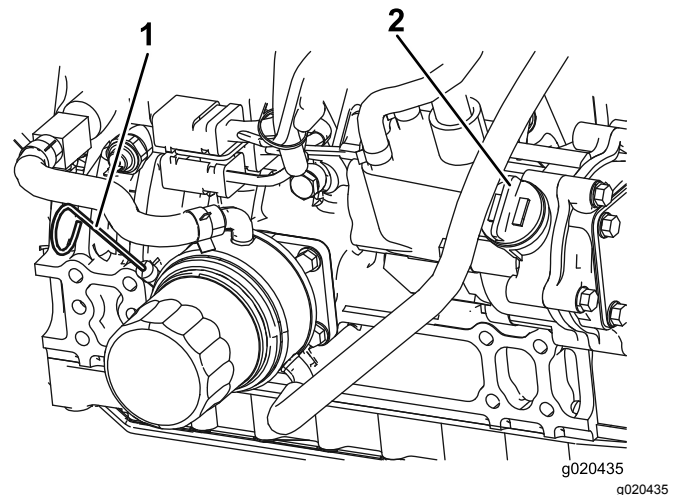

Figure 53
Note: The oil level should be in the safe range (Figure 53).
4. If the oil is below the safe range, remove the fill cap (Figure 53) and add oil until the level reaches the Full mark. **Do not overfill.**